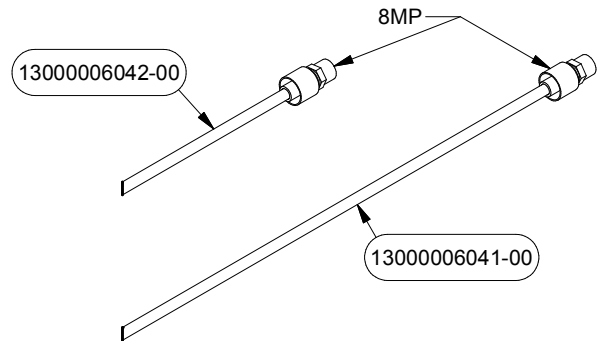

FIGURE 48
- Attach the Fittings PN# 6047 to Fittings 8MP in Hoses PN# 6041 and PN# 6042 (see Figure 48).